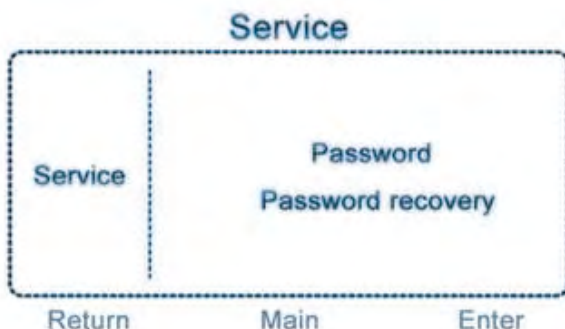
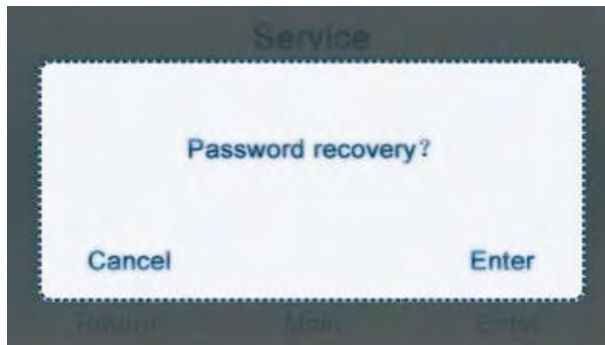

Figure 7
Figure 12
1. Proceed through main interface→Menu→Other→enter password→press "Enter" key→Service Set→press "Enter" key to initiate the setting, which is shown in Figure 7.
A. Select "Password recovery" as shown in Figure 7 and then press "Enter" key to enter the interface as shown in Figure 12; press the left key "Cancel" or the right key "Enter" to cancel this operation or confirm restoration of the initial password.